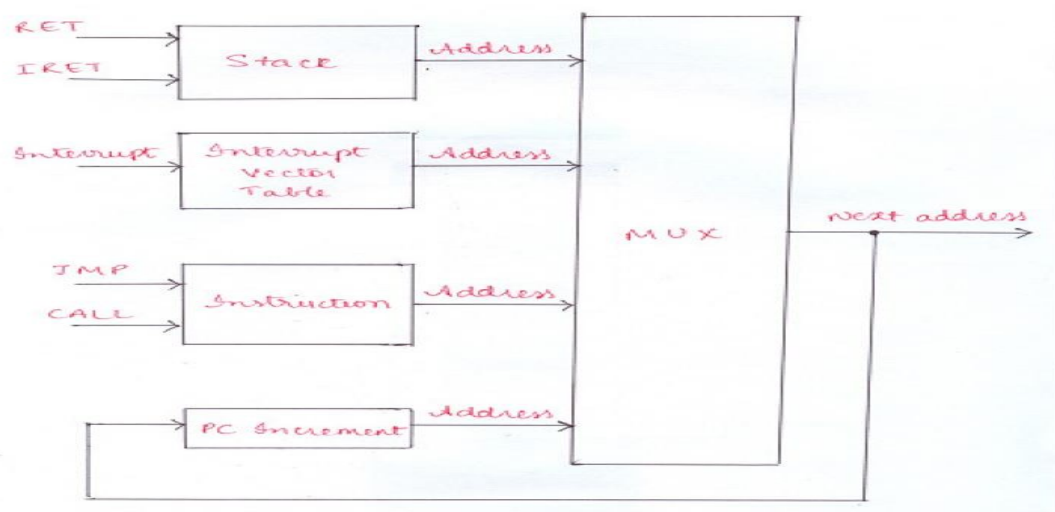

Fig 2.14 Program Sequencer
- The block diagram of a program sequencer is as shown in figure 2.14.